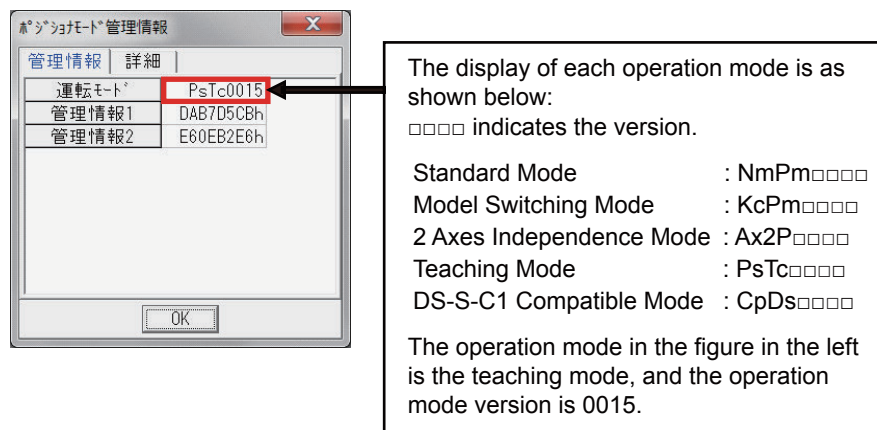

Fig. 1: Positioner Mode Administration Information Window
- *1: To check the teach mode operation mode version, after starting up in the teaching mode, check in Operation Mode in Positioner Mode Administration Information window (Fig. 1). Positioner Mode Administration Information window is displayed by selecting Controller (C) → Positioner Mode Administration Information (M) in the main window of the PC software.